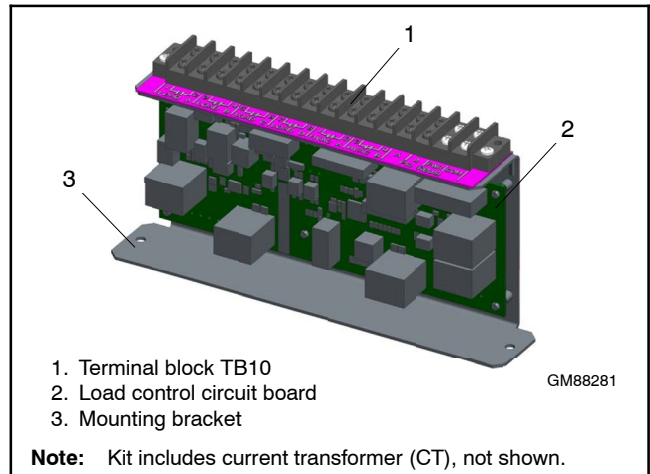

Figure 2-6 Load Shed Assembly (mounts inside the RDT or RXT transfer switch enclosure)
- The optional Load Shed Kit mounts inside a model RDT or RXT transfer switch. Figure 2-6 shows the load shed assembly.